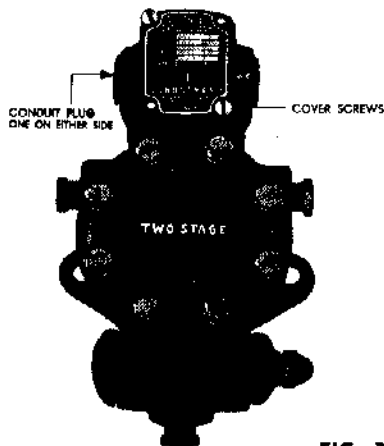

FIG. 3
1. Loosen two cover screws and remove cover as shown in figure 3.